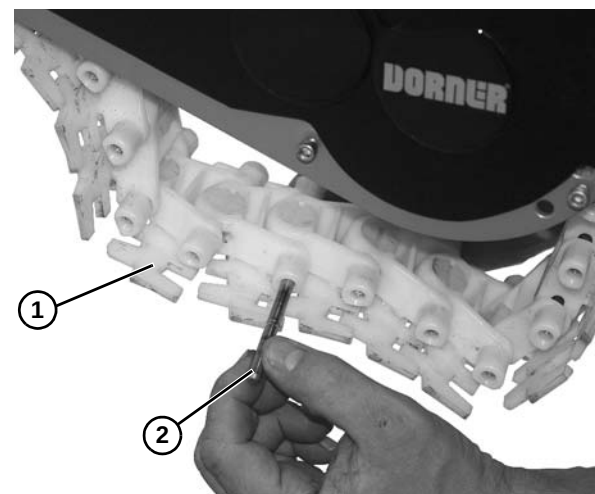

Figure 22
- Install belt around drive end of conveyor and bring the ends of the belt (**Figure 22, item 1**) together.
- Insert rod (**Figure 22, item 2**).